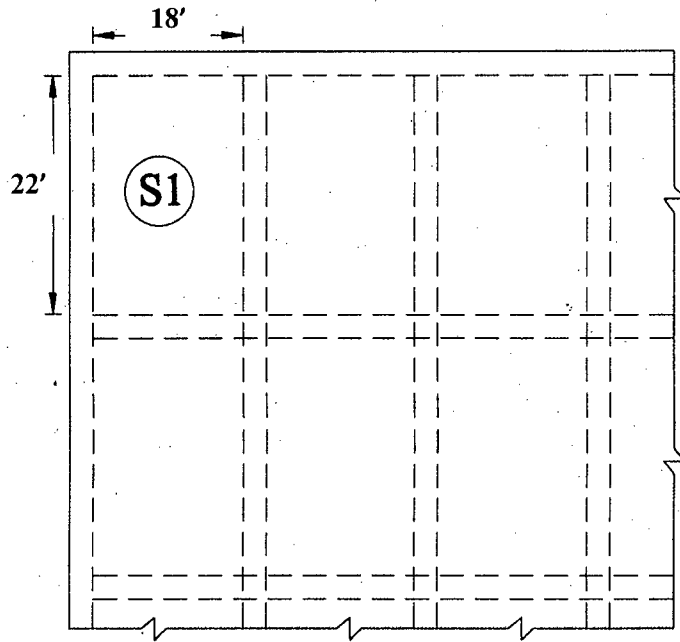

Figure: 04
3. Design the two way slab panel 'S1' as shown in Fig. 04. The slab carries a uniform live load of 40 psf and a super-imposed dead load of 30 psf in addition to its self-weight. Draw the reinforcement details also. Use Table 1, 2 and 3 for calculation. (23 1/3)